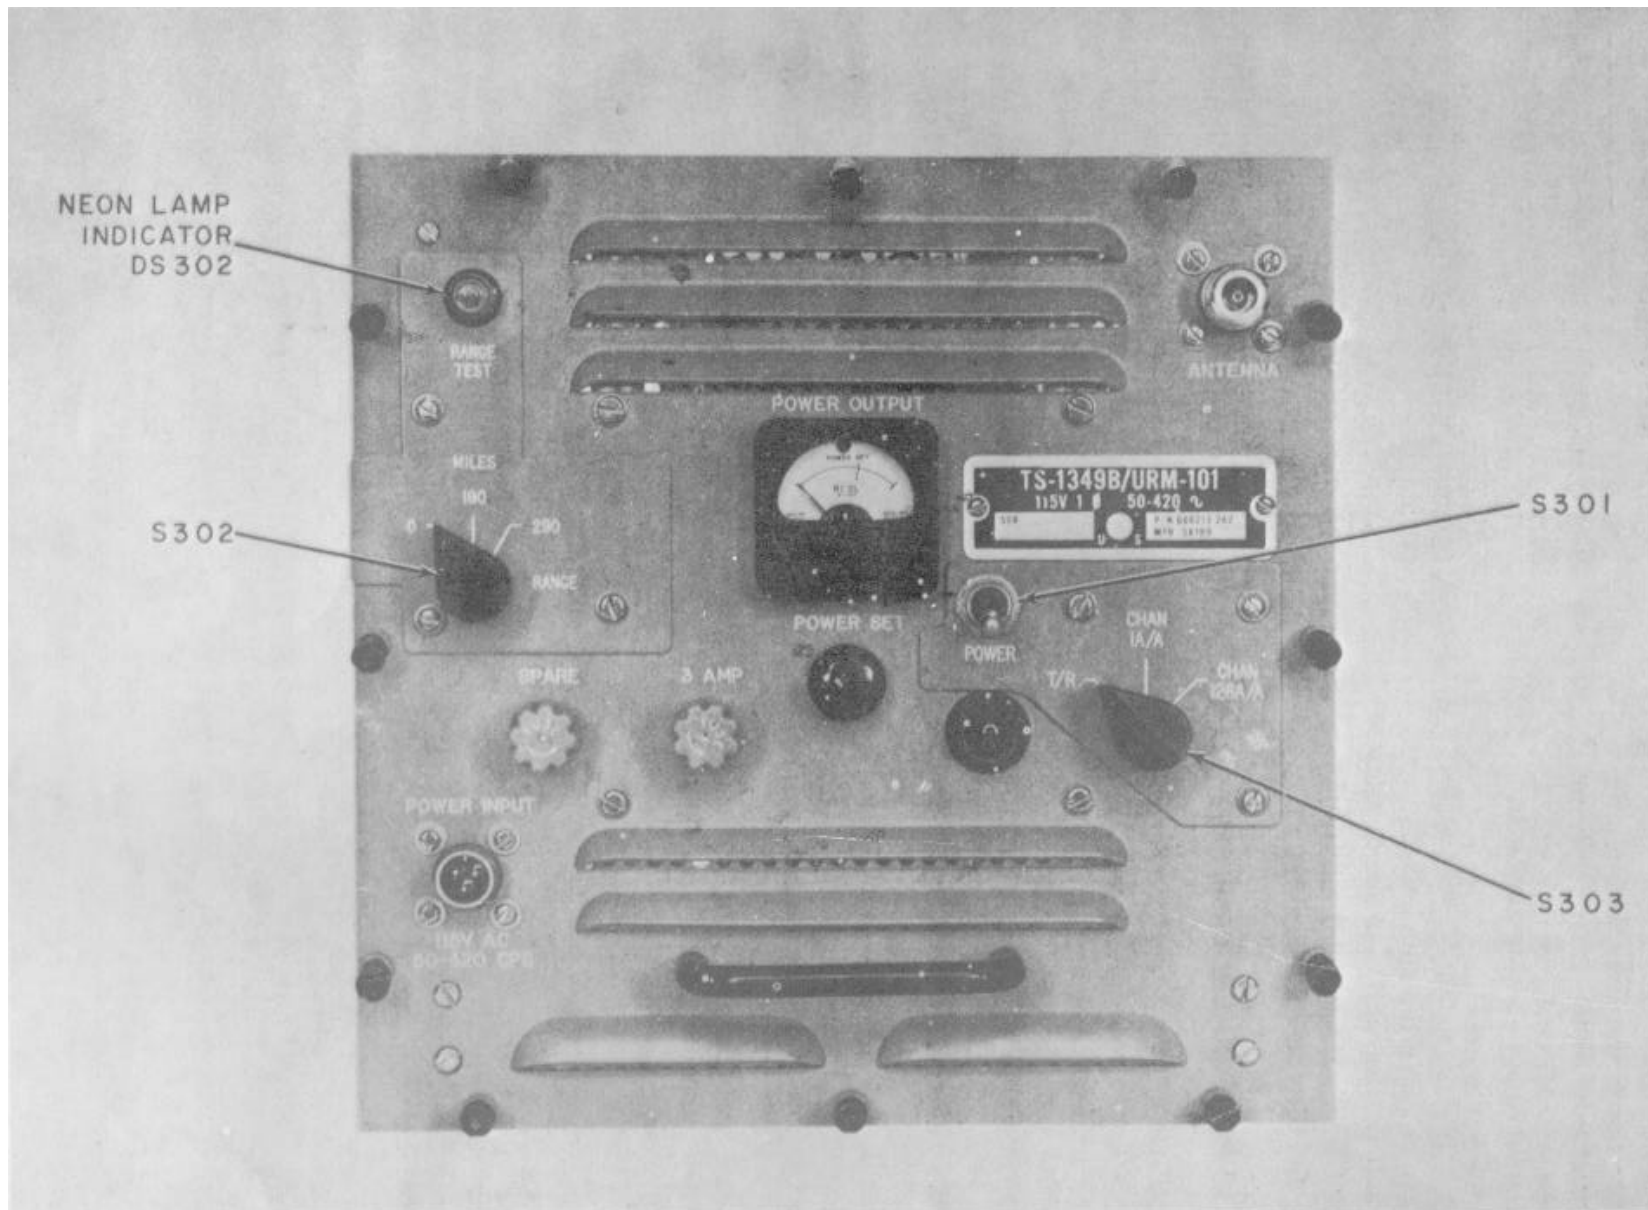

Figure 4-1. Radio Test Set TS-1349B/URM-101, Front Panel
**4-4.** The front panel controls and connectors used during the operation of the test set, are listed in table 4-1. The front panel of the test set is shown in figure 4-1.